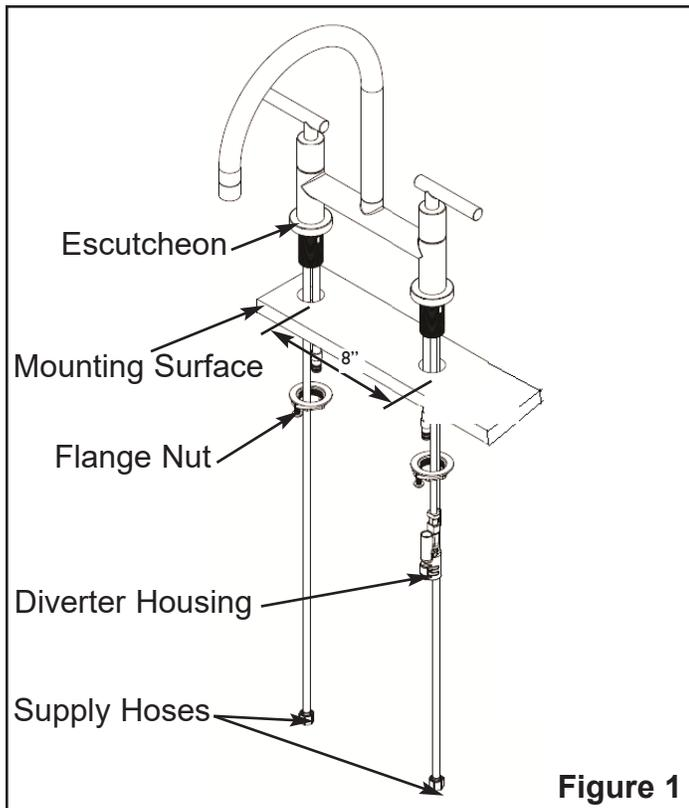

Figure 1
1. Insert water supply lines through mounting holes, then place faucet with escutcheons attached onto the deck, and secure with flange nuts. See **Fig. 1**.